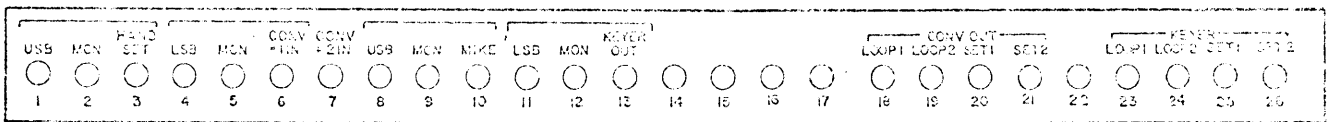

Figure 3-1. AF/DC Jackfield
a. **AF/DC JACKFIELD.** A front panel view of the af/dc jackfield is shown in figure 3-1; the jack numbers correspond to the reference designations for af/dc jacks shown on the interconnect wiring diagram, figure 2-3. Table 3-1 lists the system inputs and outputs which are available at each jack and describes the normal-thru circuits of the patch panel. The normal-thru circuits are broken by insertion of the patch cord plugs; the input/output appearing at a particular jack may thus be directed elsewhere in the system.